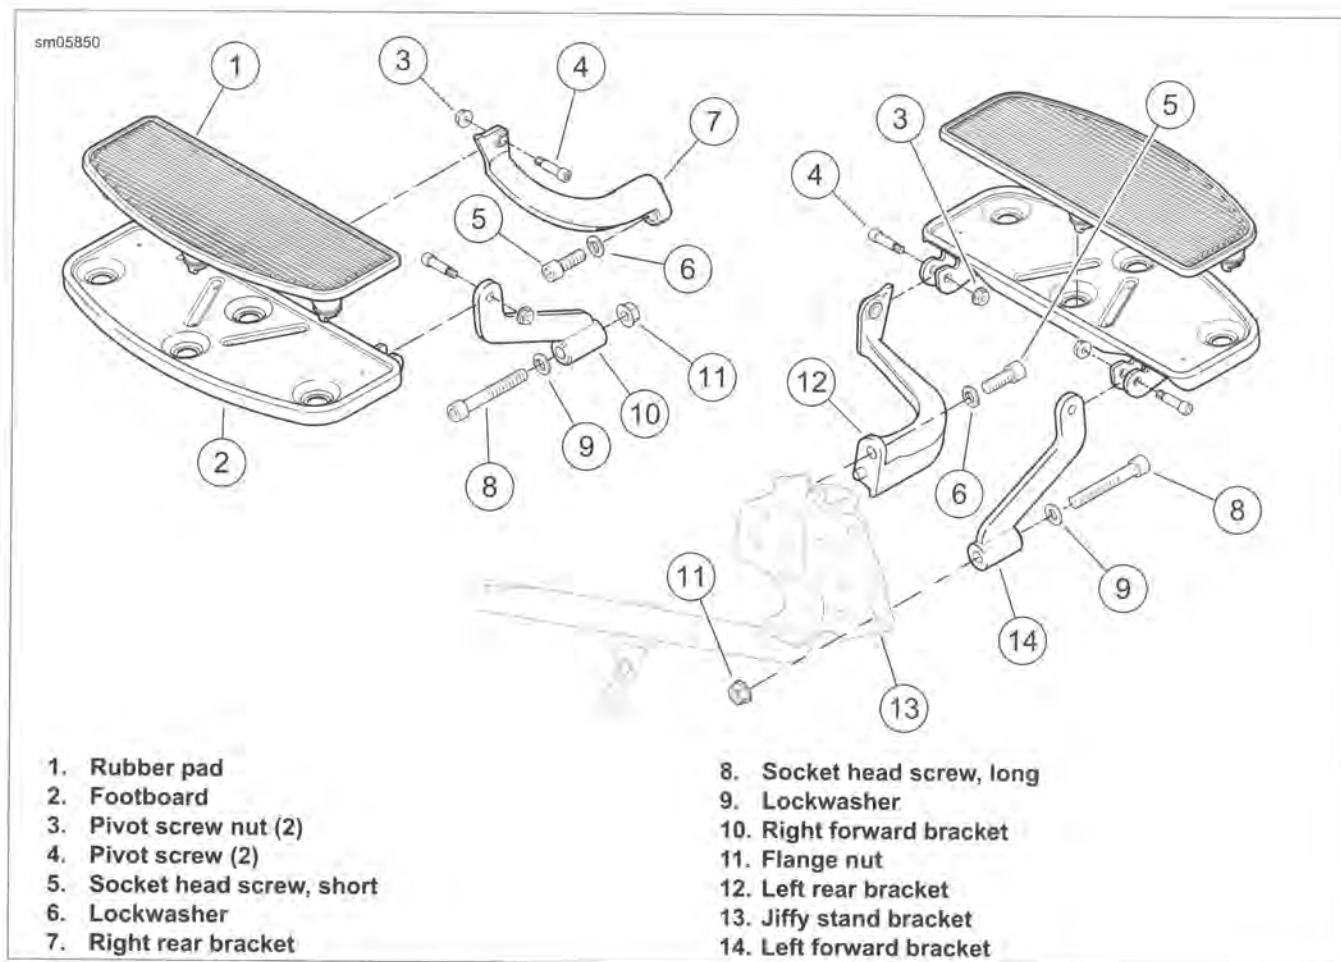

Figure 2-169. Rider Footboards (Typical) (Quantities shown are for each footboard)
2. See Figure 2-169. Remove screw (5) and lockwasher (6).
3. Remove screw (8), lockwasher (9) and flange nut (11).
1. See Figure 2-169. Install footboard and bracket assembly and secure with screws (5, 8), lockwashers (6, 9), and flange nut (11).
2. See Figure 2-169. Remove nuts (3) and pivot screws (4) from underside of footboard.
- See Figure 2-169. Place footboard into position between brackets and install pivot screws (4) so that the nuts (3) will be on the inboard side.